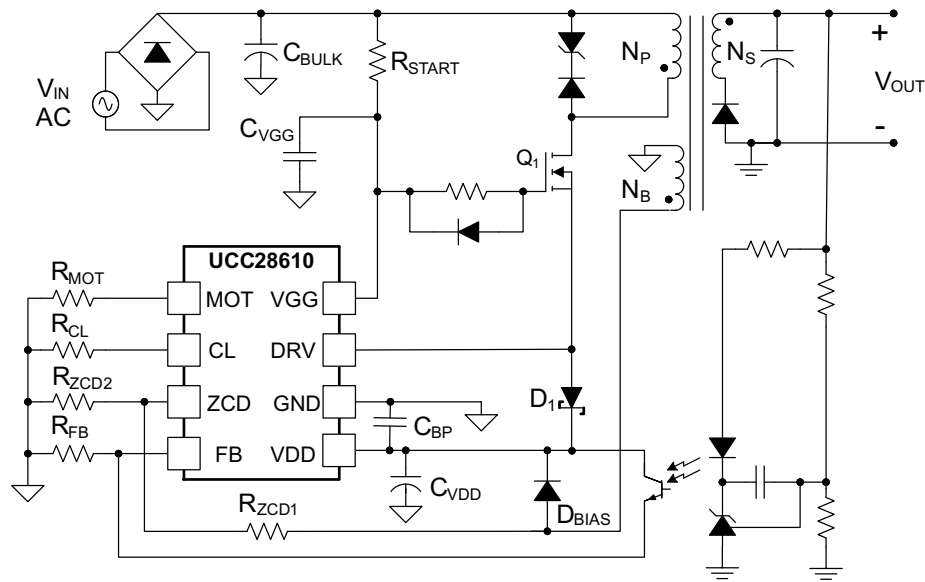

Figure 34. Recommended Operating Conditions Application
For reference designators refer to Figure 34.
(1) Refer to the Electrical Characteristics table for all constants and measured values, unless otherwise noted.
(2) Refer to Figure 34 for all component locations in the Table 2.